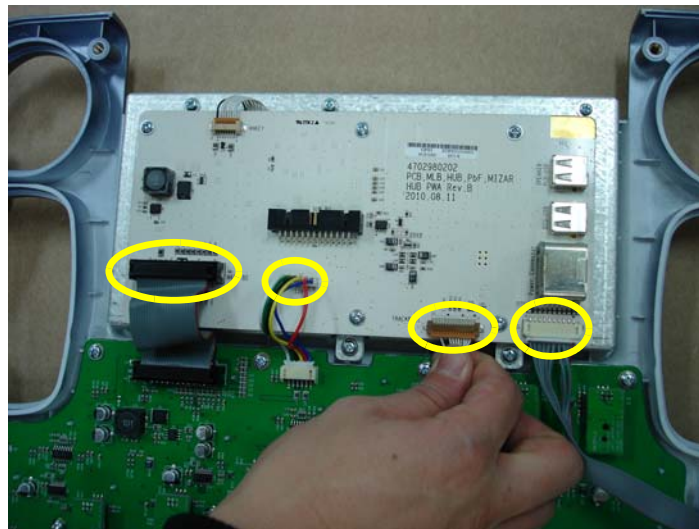

Figure 8-133 Disconnecting all connector
- 6.) Screw the 6 screws using the plus(+) screwdriver. Refer to below Figure 8-133.